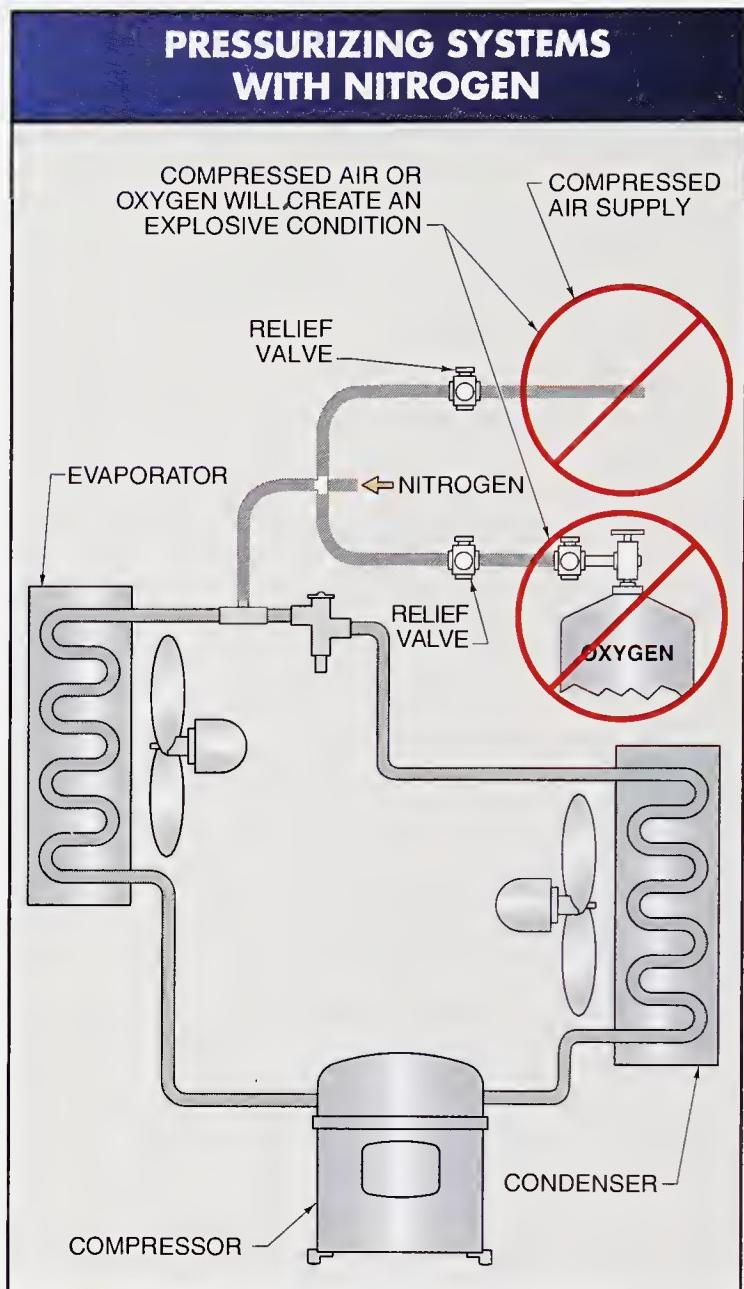

Figure 8-23. Compressed air or oxygen used to pressurize a system creates an explosive condition.
- Never use oxygen or compressed air to pressurize air conditioning, refrigeration, or process systems to check for leaks. When mixed with compressor oil, oxygen or compressed air can cause an explosion. Air conditioning or refrigerant systems with an R-134a refrigerant charge must be leak-checked with pressurized nitrogen. See **Figure 8-23**.